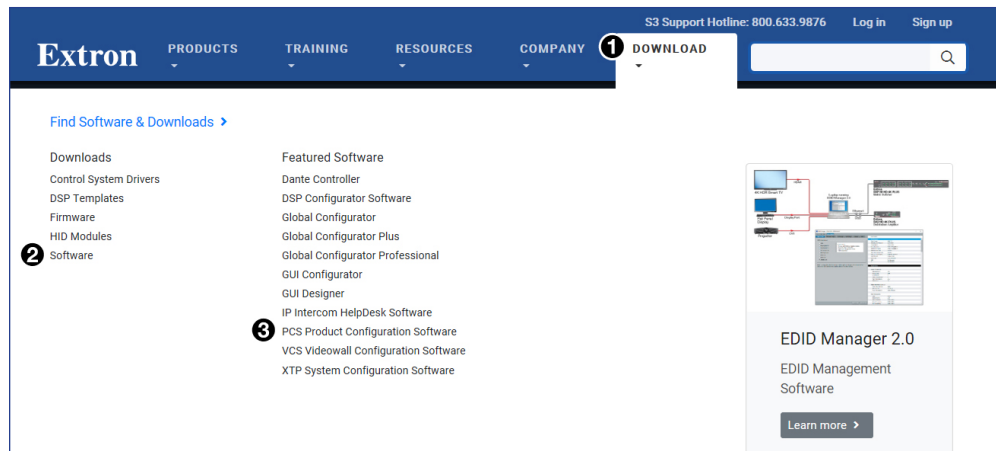

Figure 23. PCS Software Link on Download Tab
1. Mouse over the **Download** tab at the top of the homepage (see figure 23, ❶).